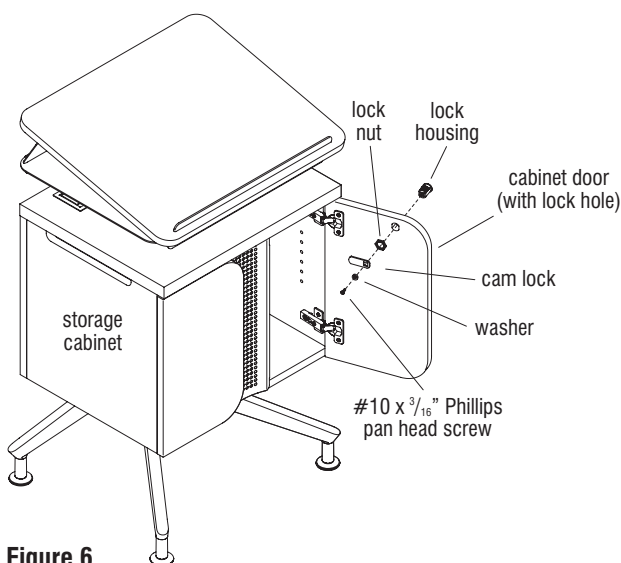

Figure 6
1. With the door open on the storage cabinet, insert the lock housing into the lock hole on the outside of the door (Figure 6 & Detail E).
2. On the back of the door, secure the lock housing to the door by threading the lock nut onto the back of the lock housing (Figure 6 & Detail E).
3. Align the square mounting hole on the cam lock with the square boss on the back of the lock housing, orienting the lock cam horizontal and in the 9 o'clock position. Secure the cam lock to the lock housing using a washer and #10 x $\frac{3}{16}$ inch Phillips screw (Figure 6 & Detail F).